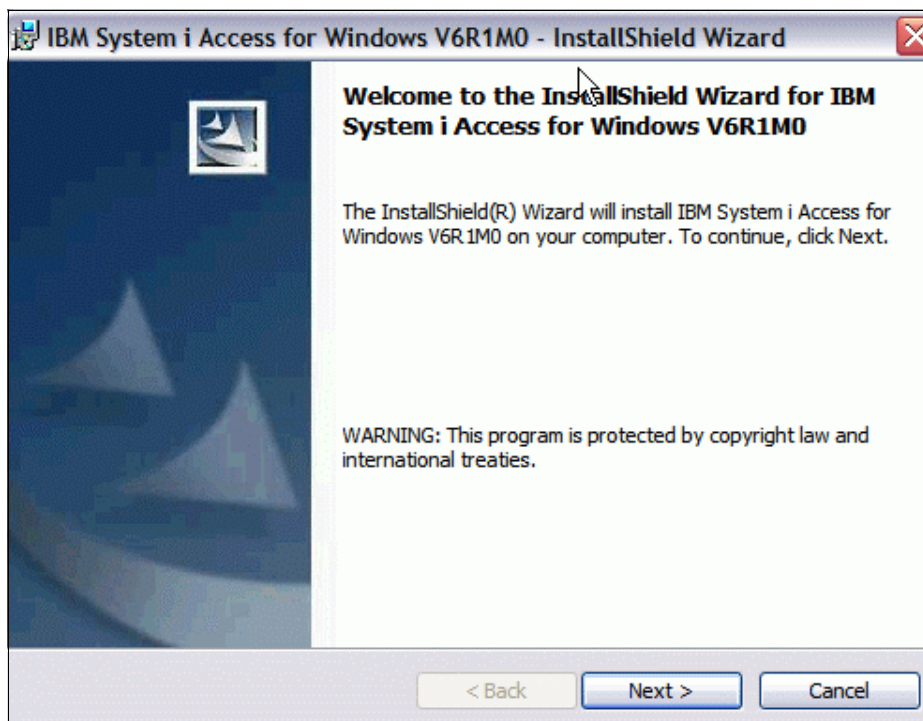

Figure 7-11 IBM System i Access for Windows welcome screen
2. The InstallShield Wizard Welcome window shown in Figure 7-11 on page 262 appears. Click **Next** to continue.